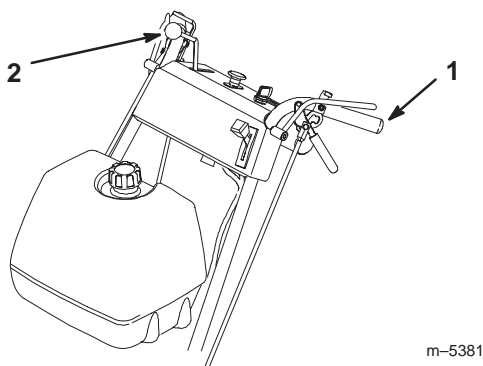

Figure 14
3. Slowly release the drive levers to move forward (Fig. 14).
To go straight, release drive levers equally (Fig. 14).
To turn, squeeze the drive lever on the side and direction you want to turn (Fig. 14).
3. Slowly squeeze the drive levers back together to move rearward (Fig. 14).